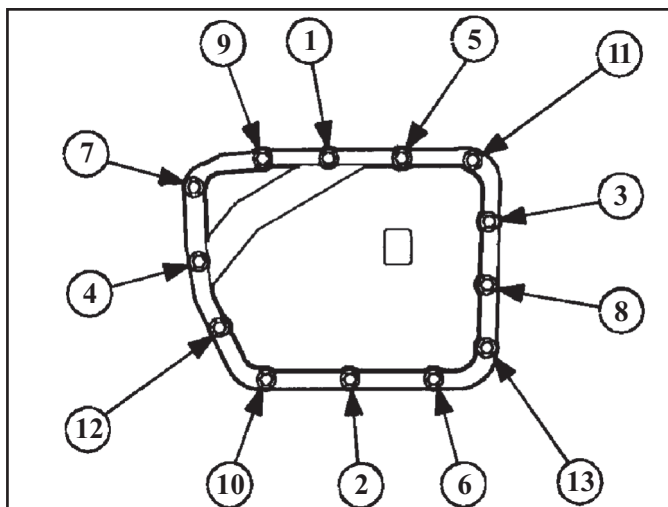

Figure 221
59. Hand start all cover bolts and torque each bolt to 10 N•m (89 in. lbs) in the numerical sequence shown in Figure 221.